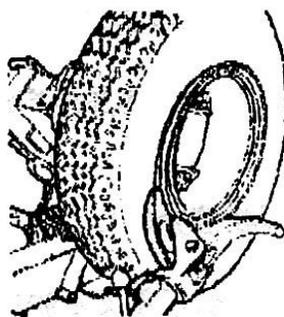

fig2.13
- 3) Turn the tire, and move the tool arms towards inside. If the edge of the tire has been separated. Stop moving so that we couldn't damage the inside tire (Fig2.13).